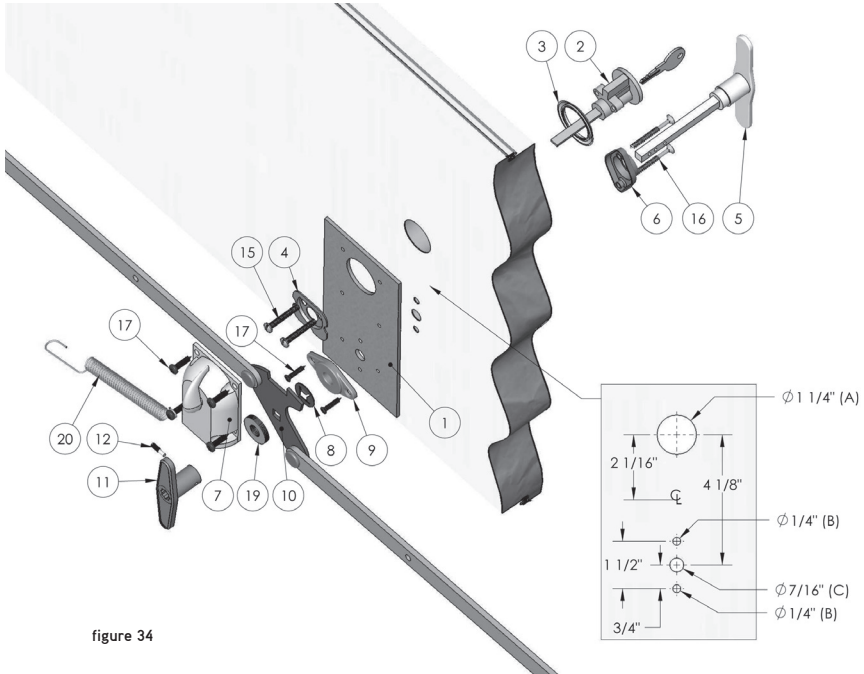

figure 34
2. Using figure 34 as a reference, mark the location of the four holes on the panel for A (barrel), B (screws) and C (handle);
4. Slide the exterior barrel (2) and trim ring (3) into hole (A). (The teeth of the key must be facing up and the key hole must be at the bottom of the barrel);
5. Position the steel plate (1) on the inside of the panel;
6. From the inside of the panel, insert plate (4) in hole (A) by positioning the round part downwards;
7. Insert 10 x 1 ½" screws (15) in plate (4), align the screws in the holes of the outside barrel (2) and tighten the screws (make sure the plate is well aligned);
8. Insert the inside lock (7) in the shaft of the outside barrel (2) and fasten it to the steel plate (1) with four ¾" screws (17) using a square head screw driver; Be sure to insert the bottom left screw in the round end of the return spring (20) before installing;
9. From the inside of the panel secure the plate (9) over hole (C) with two ¾" screws (17);
10. Insert outside handle (5) in trim plate (6) and insert through hole (C);
11. Insert both 2 1/4" screws (16) through holes (B), align them in the steel plate holes and tighten;